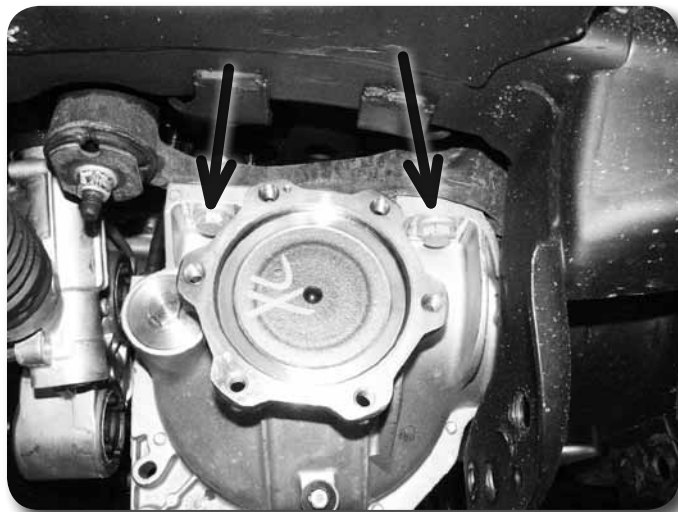

Figure 13
22. Support the front differential with an appropriate jack. Remove the two driver's side differential mounting bolts **Figure 13** and the two passenger's side mounting nuts **Figure 10**. Carefully lower the differential to the ground. Save mounting hardware.